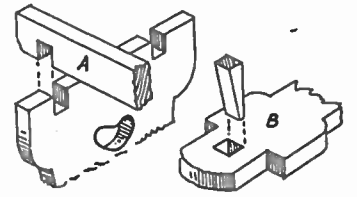
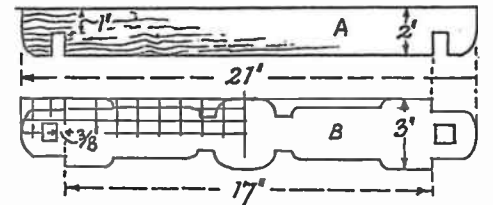
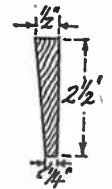

Fig. 3
Fig. 2
Fig. 4
with a very sharp pencil or a compass-point (see Fig. 3). Remember that the face sides should be on the inside of the finished case. Put identifying numbers on corresponding pins and tails, or you may be faced with a jig-saw problem later on.
The dovetails are now marked on the shorter pieces (see Fig. 2). Notice how one socket is made wider than the others in order to provide sufficient for one pin of normal width on the lid and one on the lower part, with 1/2in. extra
This done, use the fretsaw for the cutting, then take this cut-out as a template for marking out the second leg or end. The two rails (A) in Fig. 2 are plain in outline, but the slots must be carefully set 17ins. apart as shown. The lower rail (B) has its outline shaping carried out in much the same way as that adopted for the legs. Note the length of
The construction of the stool is shown in Figs. 2, 3 and 4. In the top edges of the two legs there are slots into which fit a pair of rails (A). The method of cutting the slots and fitting the rails to them is shown in Fig. 3. At a distance of 6ins. up from the bottom of the legs are cut mortises 2ins. long by 3/8 in. wide to receive the tenons on the ends of the cross-rail (B). This rail is connected and fastened in the old-time method of wedging, the wedges being inserted through holes made near the ends of the rail, as seen in Fig. 4.
The wedges pull the parts tightly together. They must be carefully marked out and cut according to Fig. 4, but trial wedges may be made before deciding the true taper required for them. The top of each wedge may be chamfered on three sides for appearance sake if desired.